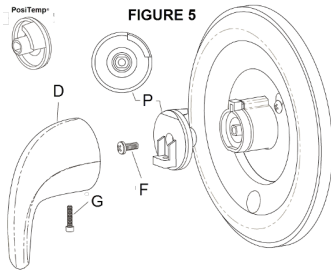
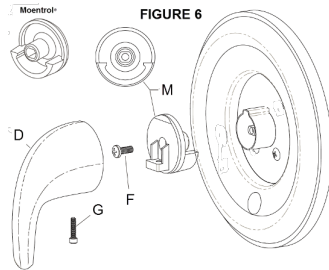

FIGURE 5
FIGURE 6
4. Remove the adapter screw (F) with a number 2 Phillips head screwdriver, then remove adapter (E) but retain. Compare old adapter (E) with new adapters M and P in figures 5 and 6 below to determine which one to install. Discard old adapter. Go to *Installation of Handle*.
III. Installation of Handle - Figures 5, 6
1. If you have Valve Type A (PosiTemp®) determined in Correct Valve Identification above, then use adapter (P) and refer to Figure 5. If you have Valve Type B (Moentrol®), then use adapter (M) and refer to Figure 6.
2. Place appropriate new adapter over valve stem in orientation shown and secure in place using screw (F).
3. Place new metal lever handle (D) over handle adapter in orientation shown. Secure using Allen head shoulder screw (G) from underside of handle with Allen wrench (H).